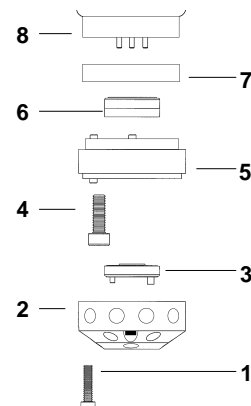

Fig. 13. Exploded view of valve.
- (1) To disassemble the valve, refer to Figures 13 and 14 and proceed as follows:
- (2) With the Hex Key provided, remove the Stator Screws (1) [four in 6-column and 5 in 3-column version] from the Stator (2).
- (3) Remove the Stator and Stator Face Assembly (3) from the Stator Ring (5). The Stator Face Assembly usually remains on the Stator.
- (4) Using the Hex Key, remove three Stator Ring Screws (4) from the Stator Ring.
- (5) Remove the Stator Ring (5).
- (6) Remove the Rotor Seal (6) from the valve Body (8). The Rotor Seal is mounted on three pins, and can be pulled off. The Gap Ring (7) should stay in place on the Body (8).
- (1) Refer to Figures 13 and 14 and proceed as follows:
- (2) Mount the new Rotor Seal (6) with the slots facing the Stator (2). The three pins (9) on the Shaft Assembly fit into the mating holes (10) in the Rotor Seal only one way. Replace the Gap Ring (7), if it was removed.
- (3) Replace the Stator Ring (5) so the two short pins on the ring enter the mating holes in the Body.
- (4) Replace and tighten the three Stator Ring Screws (4). Tighten each an equal amount until the Screws are finger-tight, then turn another half turn.
- (5) Mount the new Stator Face Assembly (3) onto the Stator (2). On 3-column Column Selectors (Models PR500-100 and PR550-100) the assembly is symmetrical and has only two pins and it can be mounted either of two ways. On the 6-column Column Selectors (Models PR500-104 and PR550-104) the assembly is not symmetrical. The two pins on the assembly have different diameters, and can only mount on the stator one way.
- (6) Replace the Stator (2) and Stator Face Assembly (3) on the valve so that the pin in the Stator Ring enters the mating hole in the Stator.
- (7) Replace the Stator Screws (1) [four in 6-column and five in 3-column version] into the Stator. Tighten each an equal amount until the screws are finger-tight, then turn another half turn.